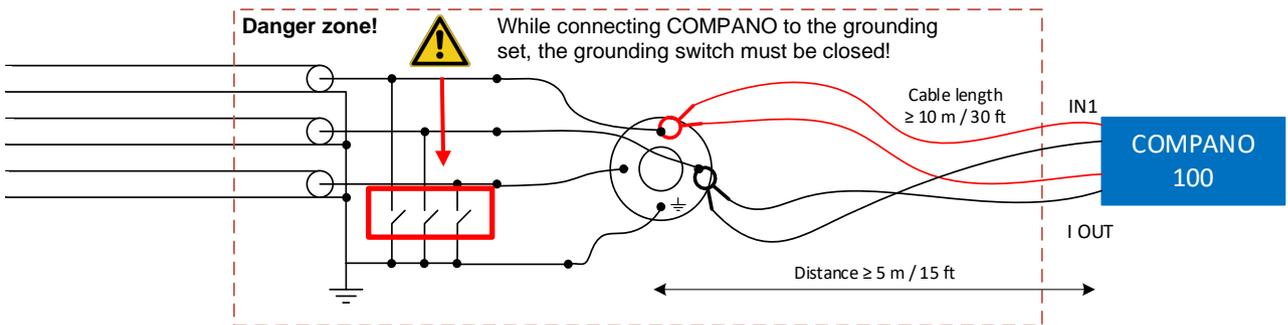

Figure 6: Connecting COMPANO 100 to CP GB1
After the measurement of the open-line voltage, COMPANO 100 can now be connected to the CP GB1. In the example in Figure 6 COMPANO 100 is connected to L1 and L2.
4. Connect COMPANO 100 to CP GB1 as shown in Figure 6 using measurement leads of at least 10 m / 30 ft length.